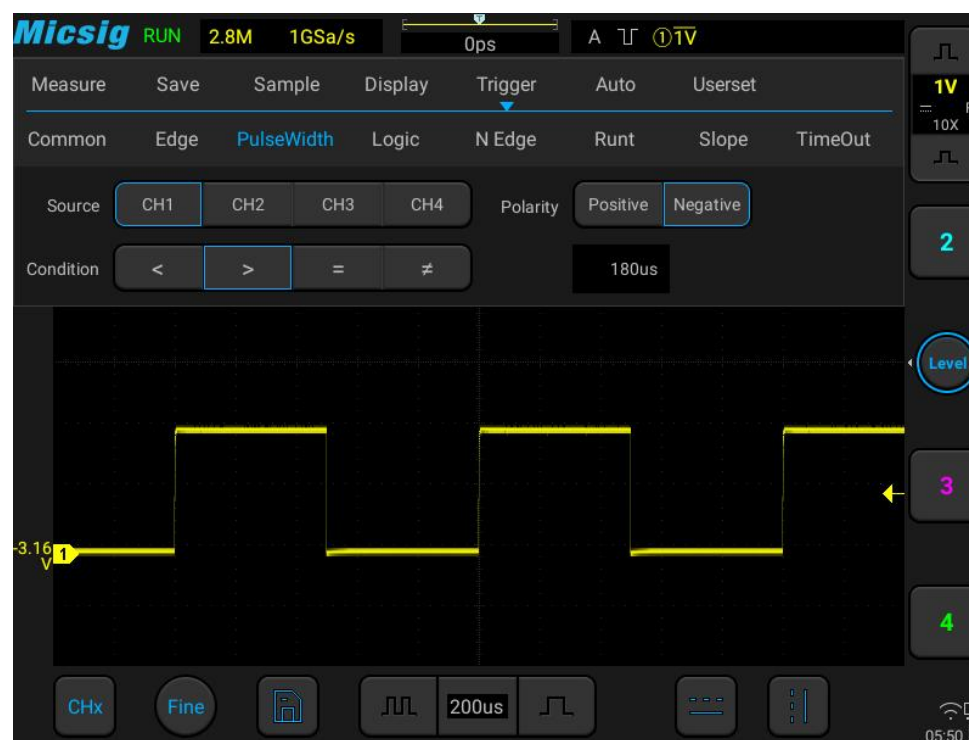

Figure 6-15 Negative Polarity Pulse Level Flip
lower than current trigger level (CH1 negative pulse indication icon $\neg$ ① 1.00V). When triggered on positive polarity pulse, if the restrictions are true, the trigger will happen on the high-to-low transition of the pulse; when triggered on negative polarity pulse, if the restrictions are true, the trigger will happen on the low-to-high transition. (Figure 6-15 Negative Pulse Level Flip)